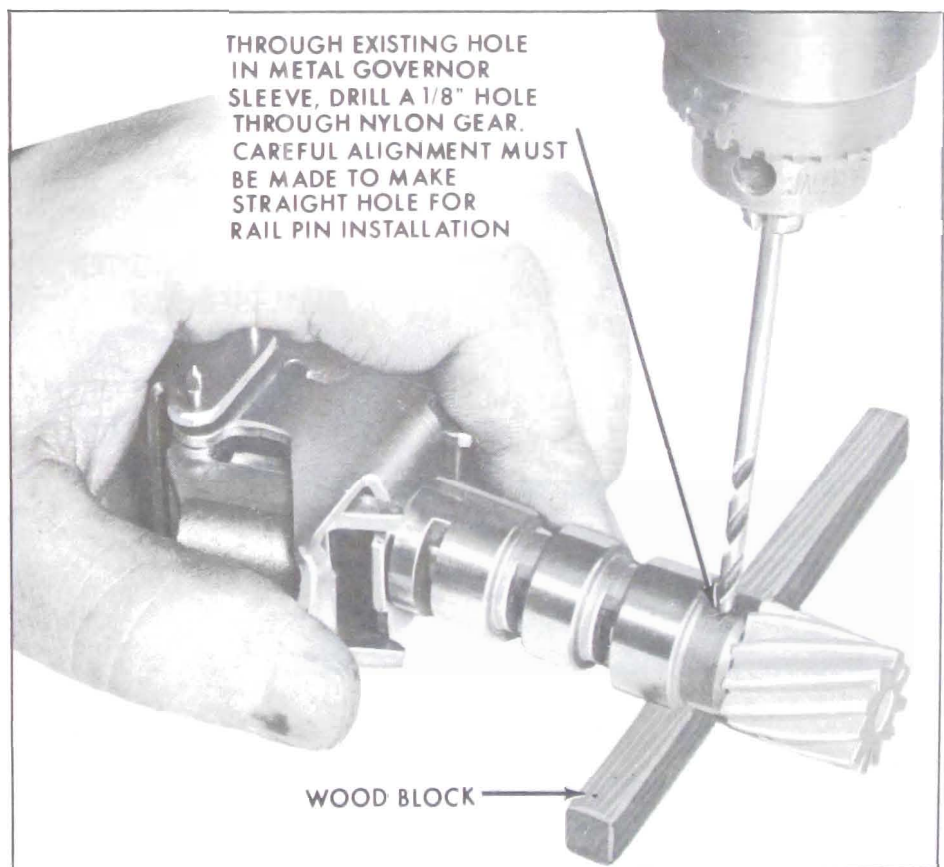

Figure 5-242
2. Through existing hole in governor sleeve, drill a 1/8" hole half-way through from each end. See Figure 5-242.